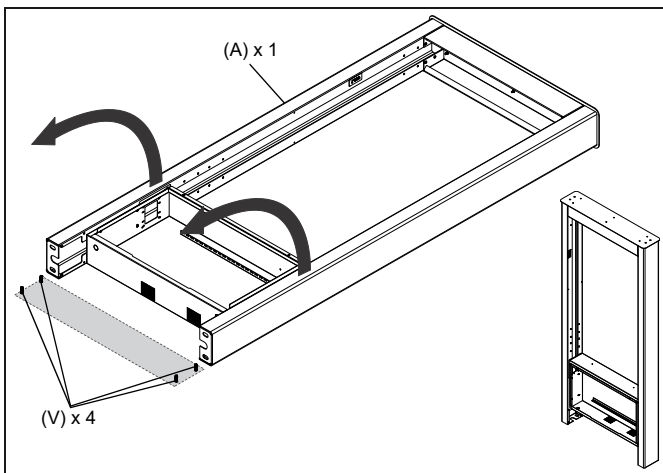

Figure 6
- Carefully tilt the kiosk frame (A) upwards until standing vertically. Move the feet of the frame into position over the four wedge anchors (V). (See Figure 6)